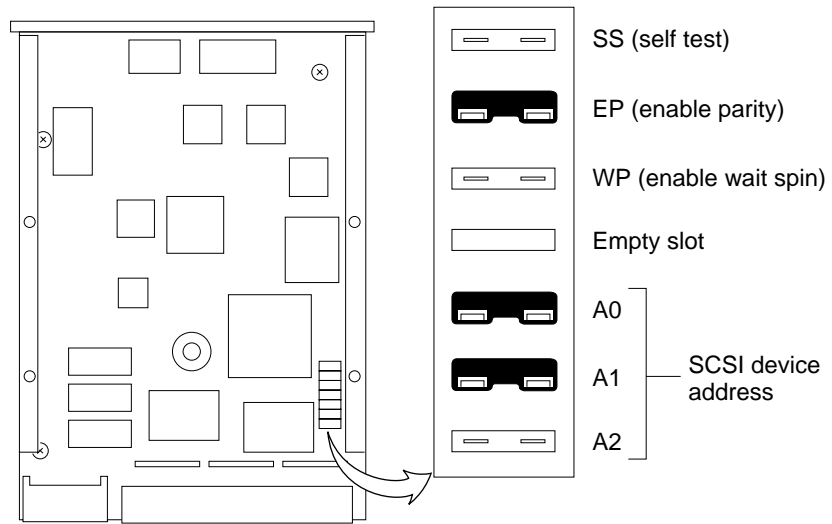
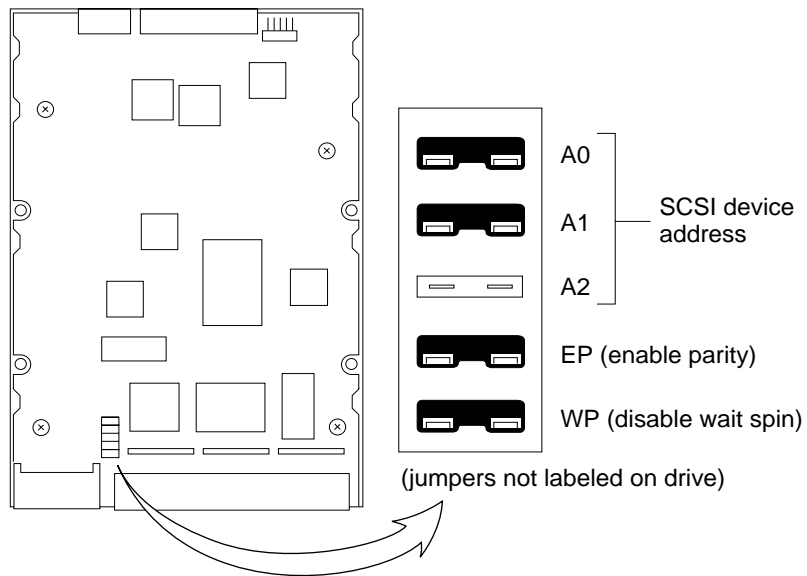

Figure 4-10 Hard Disk Drive with 6 Jumpers—Jumper Setting for Drive 1
Figure 4-11 Hard Disk Drive with 5 Jumpers—Jumper Setting for Drive 1
Note – The markings for the jumpers on the drive shown in Figures 4-10 and 4-12 are etched or labeled onto the drive’s controller board. The jumpers on the drive shown in Figures 4-11 and 4-13 are not marked on the drive’s controller board.
3. Inspect the jumper settings. Compare them to the settings shown in Figure 4-10 or 4-12.
4. Inspect the jumper settings. Compare them to the settings shown in Figure 4-11 or 4-13.